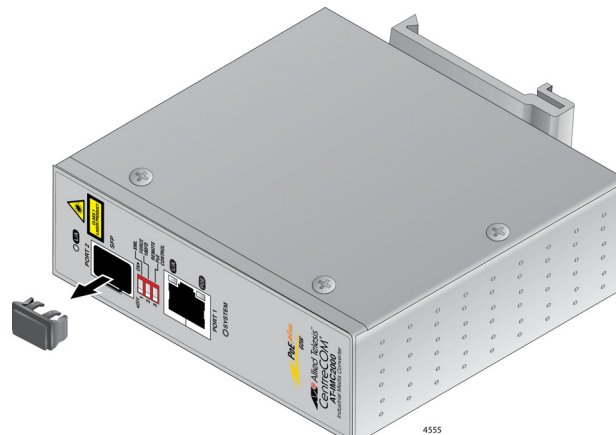

Figure 19. Removing the Dust Plug from an SFP Slot
2. Remove the dust plug from the SFP slot. See Figure 19.